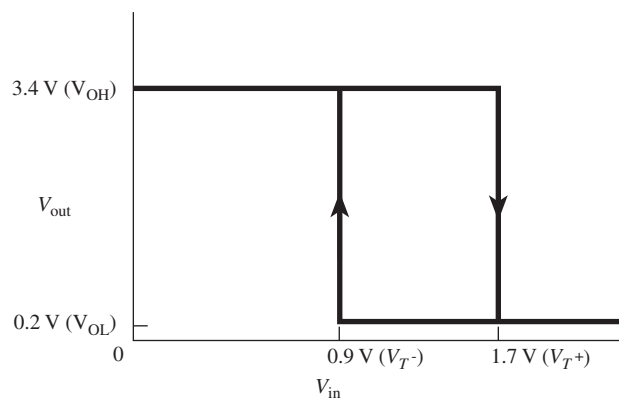
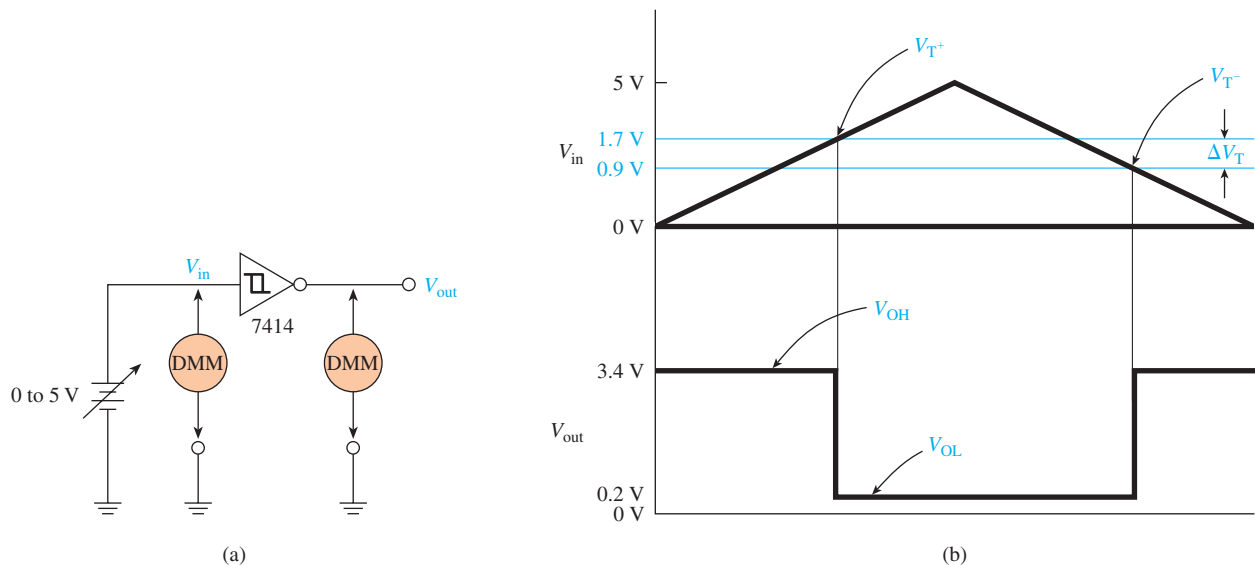

Figure 11-28 Transfer function for a 7414 Schmitt trigger inverter.
Figure 11-29 Circuit used to experimentally produce a Schmitt trigger transfer function; (a) circuit diagram, (b) V_{in} , V_{out} versus time waveforms.
How would the transfer function of a noninverting Schmitt differ from Figure 11-28?
Figure 11-28 shows the transfer function for the 7414. The transfer function graph is produced experimentally by using a variable voltage source at the input to the
Schmitt and a DMM (digital multimeter) at V_{in} and V_{out} , as shown in Figure 11-29(a) and (b).
As the V_{in} of Figure 11-29(a) is increased from 0 V up toward 5 V, V_{out} will start out at approximately 3.4 V (1) and switch to 0.2 V (0) when V_{in} exceeds the positive-going **threshold** (≈ 1.7 V) as shown in Figure 11-29(b). The output transition from HIGH to LOW is also indicated in Figure 11-28 by the downward arrow. As V_{in} is increased up to 5 V, V_{out} remains at 0.2 V (0).
As the input voltage is then decreased down toward 0 V, V_{out} will remain LOW until the negative-going threshold is passed (≈ 0.9 V). At that point, the output will switch up to 3.4 V (1), as indicated by the upward arrow in Figure 11-28. As V_{in} continues to 0 V, V_{out} remains HIGH at 3.4 V. The hysteresis in this case is 1.7 V $-$ 0.9 V $=$ 0.8 V.